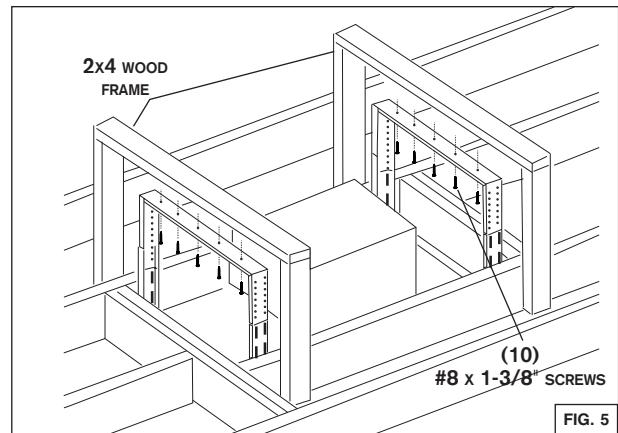

FIG. 5
3. Secure each suport frame to the wooden hood support frame using 10 # 8 x 1-3/8" screws provided.See FIG. 5.